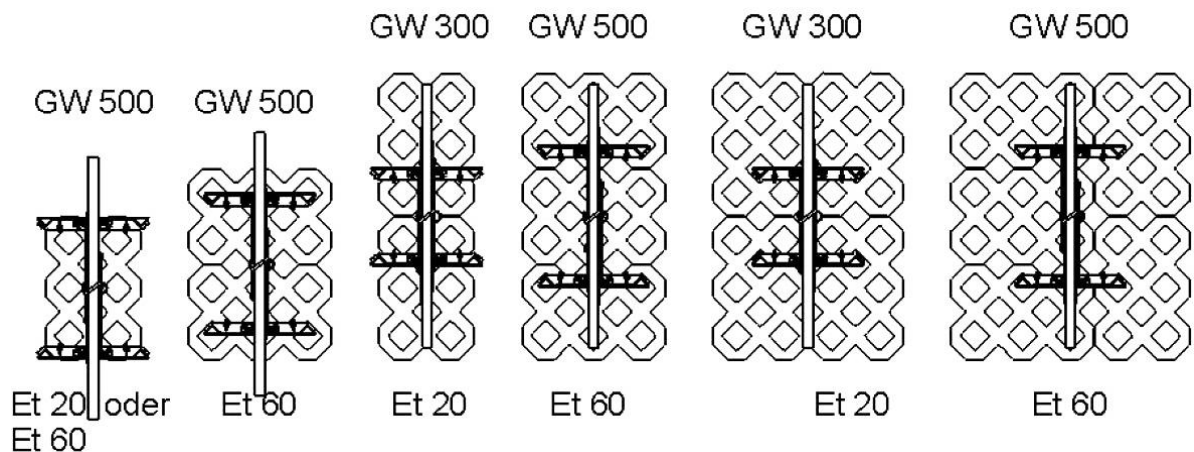

Fig. 1
The illustrated gripping good (Turf Stone) can be gripped in only two adjusting holes (4th hole each from the inside) for a gripping range/gripping width (GW) of approx. 300 mm and adjusting holes (7th hole each from the inside) for a gripping range/gripping width (GW) of approx. 500 mm (Fig. 1).